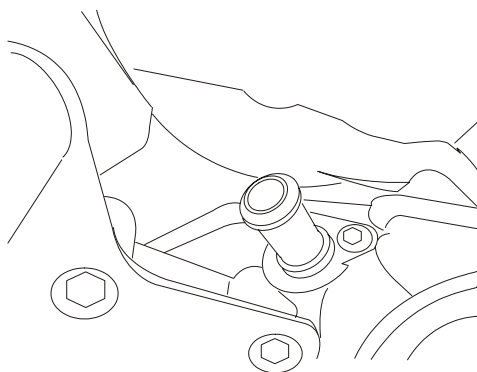

Figure 1.1
- ☐ Put the O-ring on the replacement hose barb fitting and install it in place of the steel return pipe (Figure 1.1).